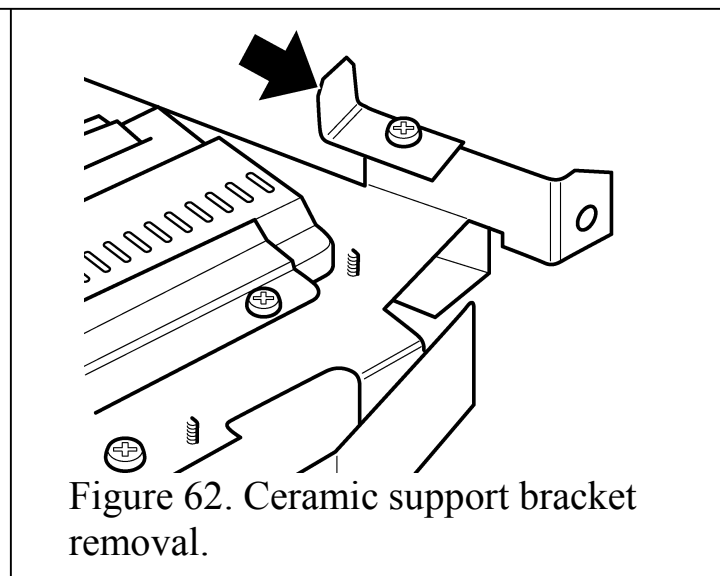

Figure 62. Ceramic support bracket removal.
4. If lying the burner on its back, unscrew and remove the two ceramic support brackets from the top of the burner unit. This will avoid damage to the brackets and the work surface (see figure 62)
2. Unscrew and remove the two ceramic support brackets from the top of the burner unit. This will avoid damage to the brackets and the worksurface (see figure 62) Turn the burner unit upside down. Detach the thermocouple and interrupter block from the tap - See section 16.8 paragraphs 2 - 4.
2. If lying the burner on its back, unscrew and remove the two ceramic support brackets from the top of the burner unit. This will avoid damage to the brackets and the worksurface (see figure 62)
- This will avoid damage to the brackets and the worksurface (see figure 62)